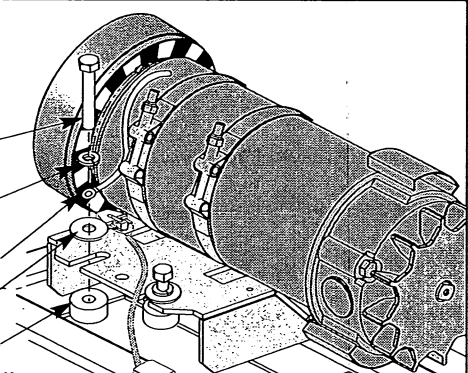

Figure 17
- B. Place the flat washer on the motor saddle followed by the ground terminal, split washer and screw. See Figure 17. **NOTE:** Be sure that the spacers are still in place below the saddle.